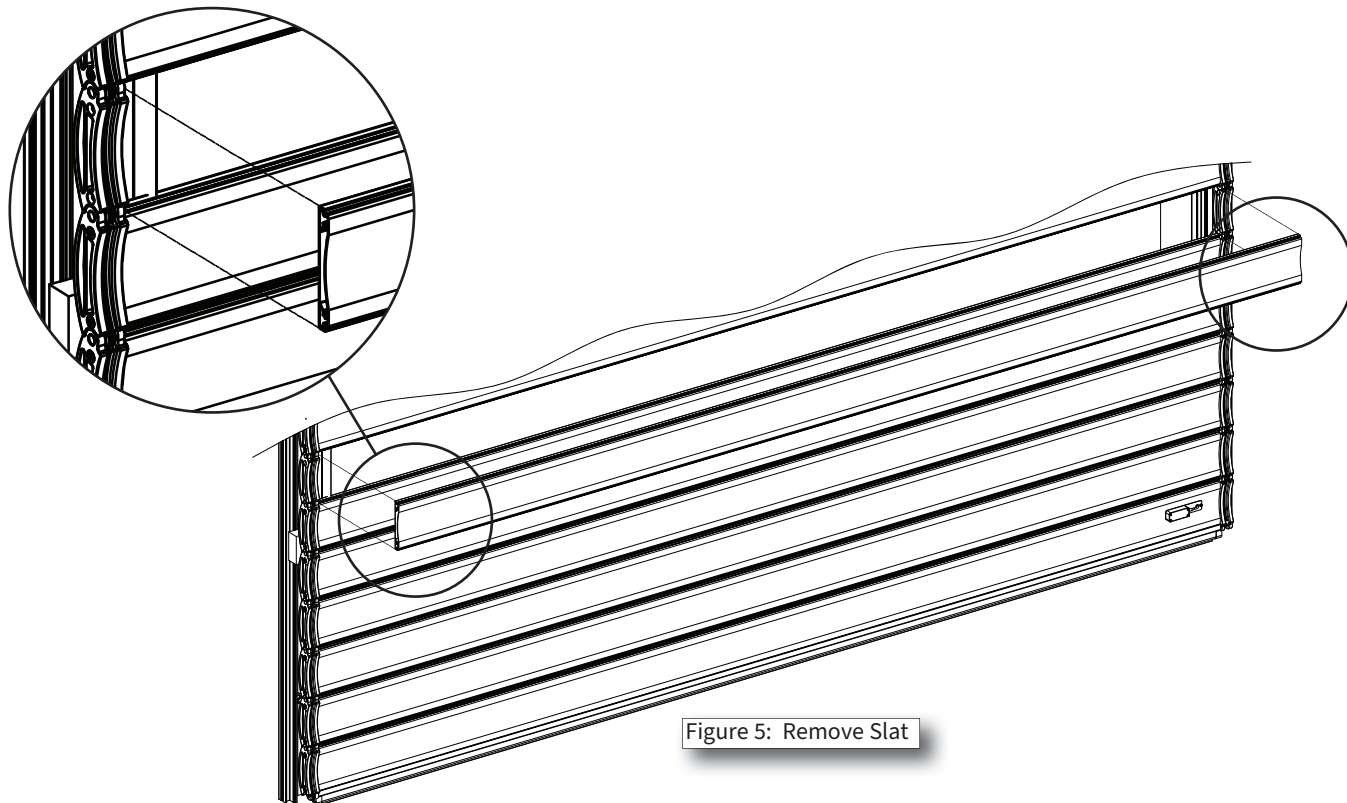

Figure 5: Remove Slat
- 1 Remove slat by pushing slat straight out from behind (Figure 5). If slat is too tight to remove, loosen (but do not remove) screws on endcap links of slats above and below slat to be removed. Be sure to re-tighten these screws after replacing slat(s).